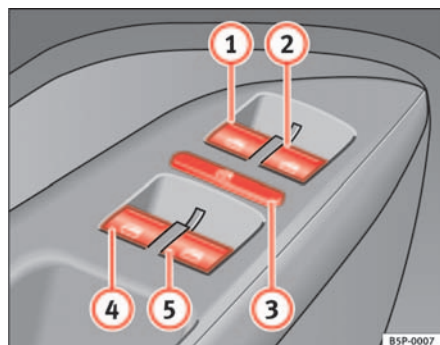

Fig. 68 Section of the driver door: controls for the front and rear windows
The buttons ⇒ page 104, fig. 68 ① and ② have two levels for opening the window and two for closing it. This makes it easier to open or close windows to the desired position.